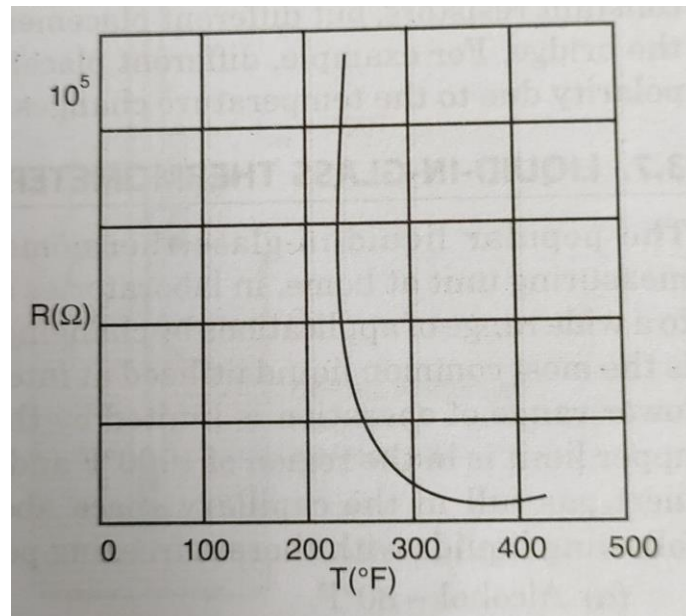

Fig. 2: Resistance-temperature characteristics of a typical thermistor
- The resistance temperature characteristics of a typical thermistor are given in Fig. 2. The resistance temperature characteristics of Fig. 2 shows that a thermistor has a very high negative temperature co-efficient of resistance, making it an ideal temperature transducer.